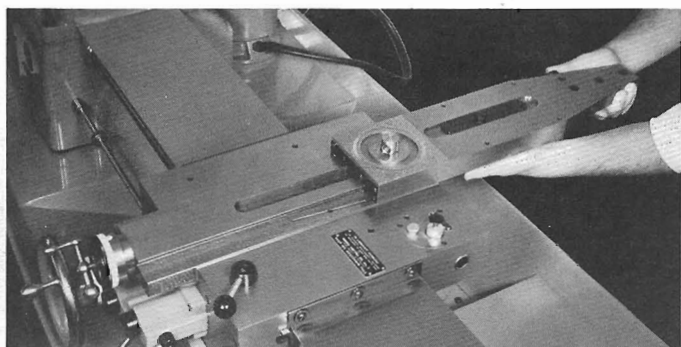

Figure 160 — Cross Slide Removal
2. With handwheel, feed cross slide towards machine rear until travel stops. Remove cross slide by hand, Figure 160, from rear of machine.